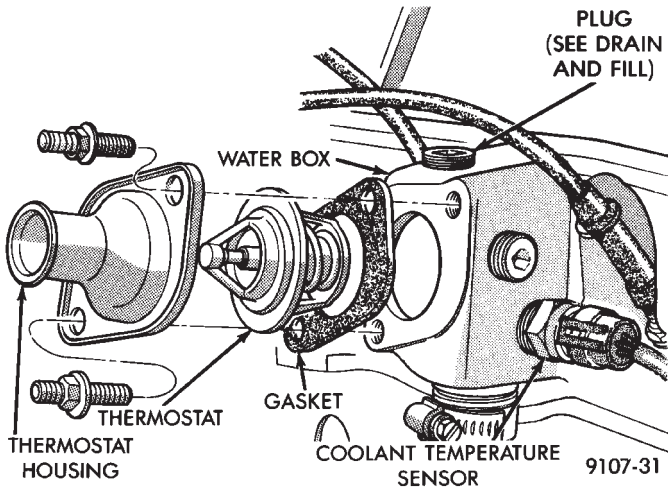

Fig. 8 Thermostat, Housing, and Water Box—2.5L Engine
The 2.5L engine thermostat is located on the front of the engine (radiator side) in the waterbox that is part of the cylinder head construction (Fig. 8).
- (1) Drain cooling system down below the thermostat level. Refer to Draining Cooling System in this group.
- (2) Remove thermostat housing bolts and housing (Figs. 8, 9 and 10).
- (3) Remove thermostat, discard gasket and clean both gasket sealing surfaces.
ing. Bolt housing to water box (Fig. 8). Tighten bolts to 28 Nm (250 in. lbs.). Refill cooling system (see **Refilling System**).